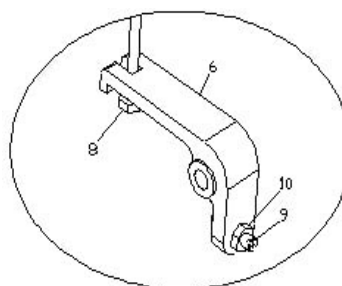

Fig. 5
6. In case you detect any failures in lowering or rising process, it is possible to adjust it with the set screw (pos. 9 fig. 3 and 5). Before you make any adjustments, you should unlock the set screw by the lock nut (pos. 10 fig. 3 and fig. 5). In case the truck body lowers shortly after rising, turn counterclockwise the set screw (pos. 9 fig. 3 and 5) and try the truck again until it is not adjusted. In case the truck body is unable to lower down, turn the set screw clockwise and then try the truck again until it restores normal lowering. Once the truck is adjusted, lock the set screw into position with lock nut (pos. 10 fig. 3 and fig. 5).